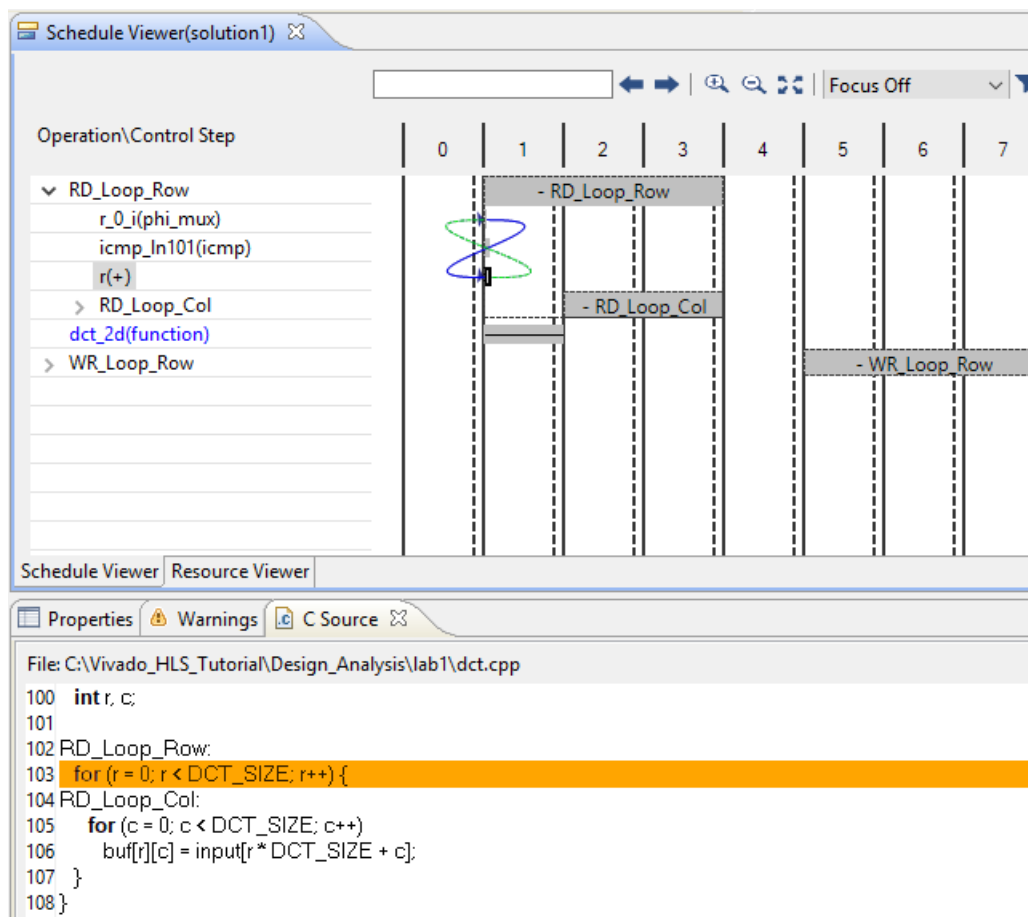

Figure 6-9: C Source Code View
3. Select the adder in state C1, right-click and select **Go to Source** (Figure 6-9).
- a. When the dialog box opens, press OK to select item 0.
This opens the C source code to highlight the operation in the C source that created this adder. From the details on screen (also shown in Figure 6-9), you can determine it is indeed the loop counter. It is the only addition on this line, and the variable is named "r".